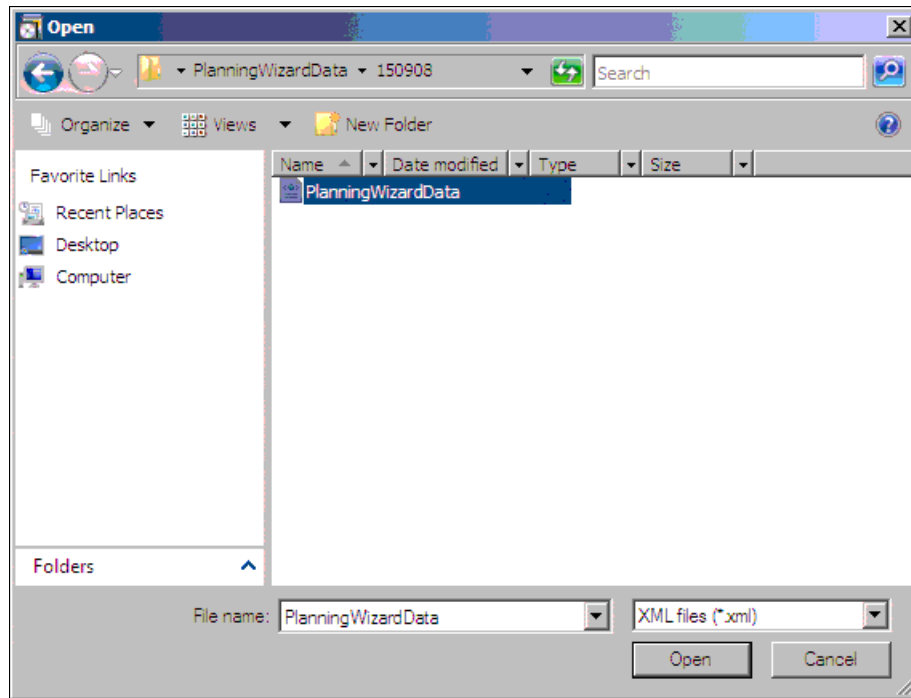

Figure 4-10 Load planning data XML file
- ii. Click **Load Planning Data** on the “Planning data upload” panel. This opens the XML file that you saved when you completed the Planning Wizard. In the “Open” panel (Figure 4-10), provide the location of the XML data file, which is required to continue the installation wizard.